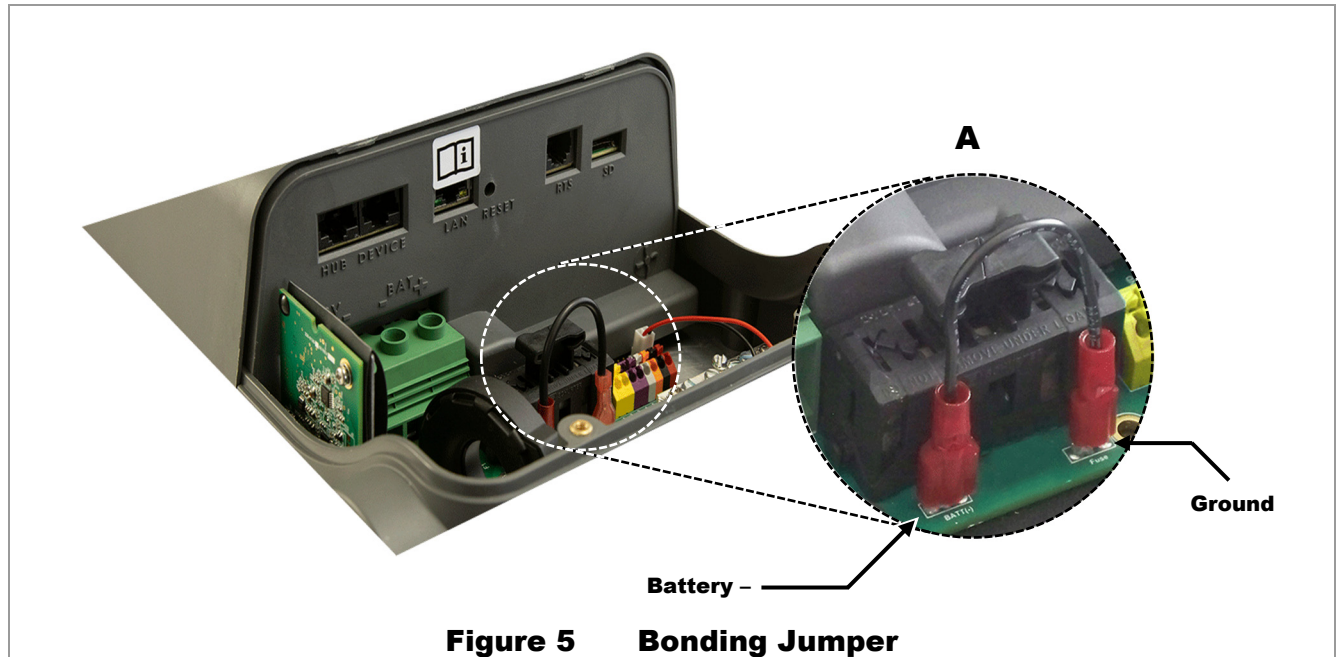

Figure 5 Bonding Jumper
The FLEXmax 100 uses a jumper wire to create a functional ground for one conductor. Connecting this wire completes a mechanical connection (bond) between one battery conductor and the ground. The default position creates a negative-to-ground bond, the most common configuration (item **A** in Figure 5).
- o Remove the bonding jumper wire (item **A** in Figure 5).
If alternate PV system grounding configurations or GFDI methods are required, remove the ground bonding jumper wire from all FLEXmax 100 controllers (see Figure 5 on page 19). Do not remove the GFDI fuses from any controllers. Once the bonding wire has been removed, the external ground fault device can be installed according to its own instructions.